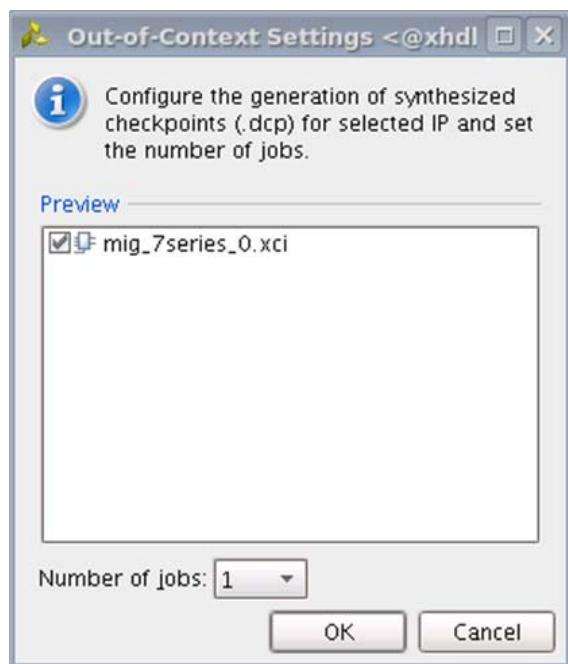

Figure 2-29: Out-of-Context Settings Window
2. Click **Out-of-Context Settings** to configure generation of synthesized checkpoints. To enable the **Out-of-Context** flow, enable the check box. To disable the **Out-of-Context** flow, disable the check box. The default option is "enable" as shown in Figure 2-29.